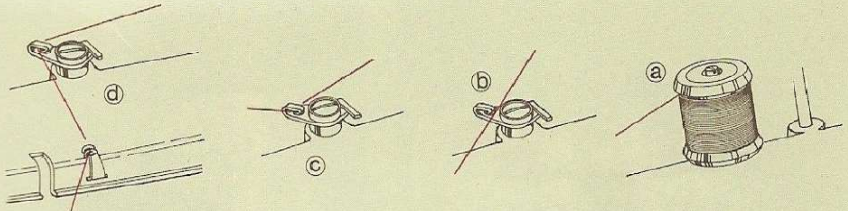

Fig 1- (a) (b) (c) (d)
1. Place thread on spool pin as shown, with thread coming from the back of the spool (Fig. 1-a). Draw thread through the rear thread guide (Fig. 1-b, 1-c). Pass thread through top thread guide (Fig. 1-d).